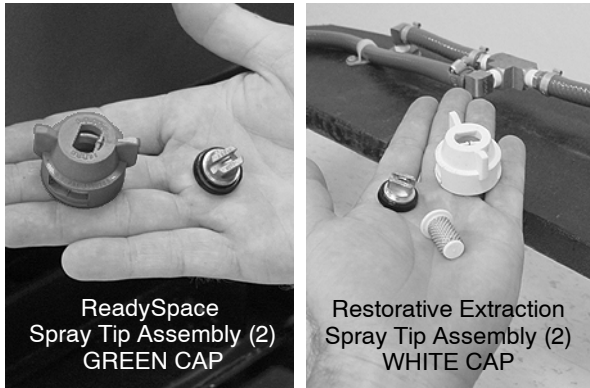

FIG. 37
3. Remove the four quick-release spray tips from the scrub head (Figure 35). Turn spray tip caps counter-clockwise to remove. Soak the tips and screens in an acetic acid solution for up to six hours (Figure 37). Follow the mixing directions on the bottle. Do not use pointed objects to clean tips, damage will occur.